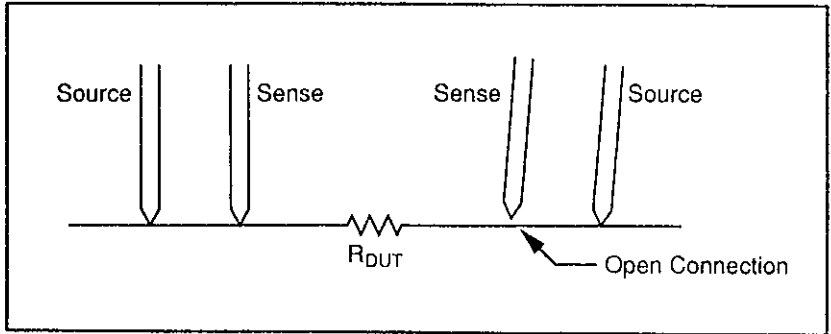

Figure 2-8. Open Test Leads
The Model 580 will normally detect an open test lead or other conditions where a good measurement is not possible (see Figure 2-8). In these cases the unit will display an overload indication (OL).